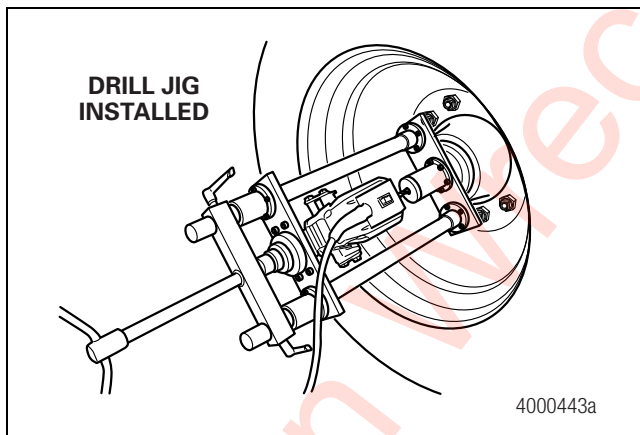

Figure 2.36
- **If the drill stalls or lags:** Back off the advancing handle COUNTERCLOCKWISE a few turns while the drill is on, then resume drilling. Figure 2.36.